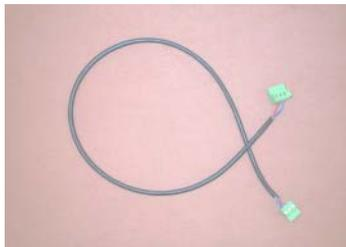

Figure 9
- 3-to-4-pole communication cable with plug-in connectors for connection to RS232-RS485 Converter as an HPI adapter, or directly to either the humidifier or “Boardcontroller” (Figure 9)